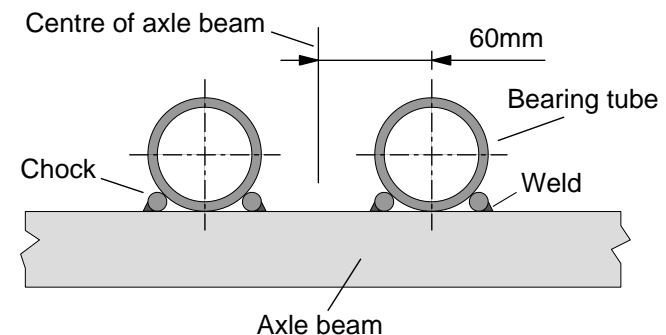

Figure 10: position of bearing tubes and chocks.
- 7) Cut eight 50mm pieces of 8 to 12mm round bar for the bearing tube chocks. Mark the centre of the axle support beam of the cart and put marks on the beam 60mm either side of this. You need to weld the chocks on to the beams so that the bearing tubes just sit nicely in the space between the chocks as shown in Figure 10.